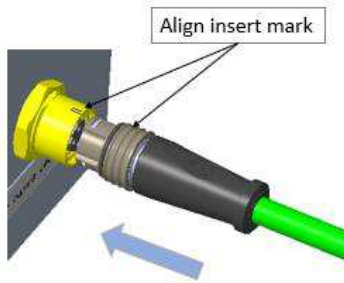

Figure 9
3.6.2.1 Align insert mark, Figure 9